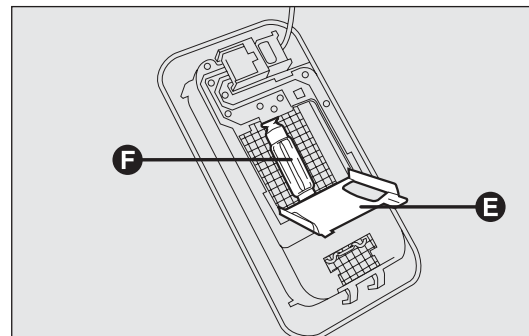

fig. 178
- ☐ open the protective flap E-fig. 178;